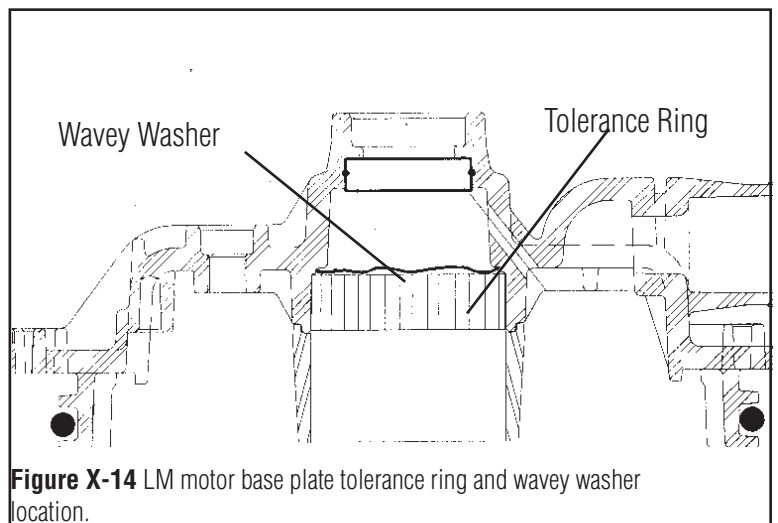
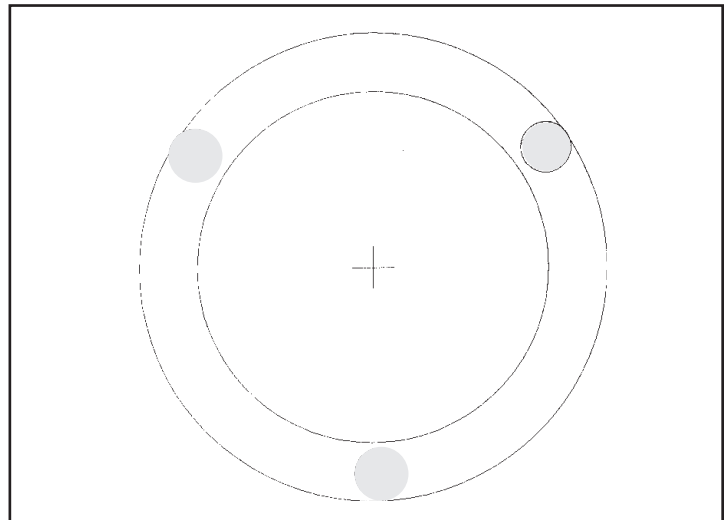

Figure X-14 LM motor base plate tolerance ring and wavy washer location.
Figure X-16 Place small dabs of grease on wavy washer to help hold it in place during assembly.
E. If being replaced, slide the new tolerance ring (P/N C2-100) on the MBP in the groove below the ceramic seat. (Fig. X-14)
G. Take wavy washer (part# C2-705) and place small dabs of grease on the high sides, (Fig X-16). Install the wavy washer into the motor base plate allowing the grease to hold it in place. (Fig. X-14)